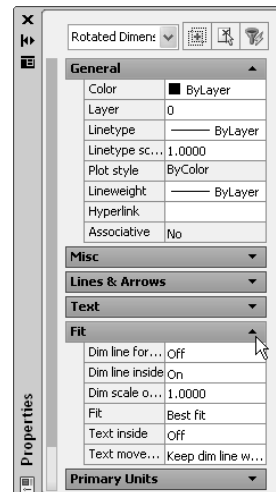

Figure 10.21
3. Scroll down the list of properties until you see the Fit options. If you do not see a list of options under Fit, click the downward-pointing arrow to the right to display a new set of options, as shown in Figure 10.21.